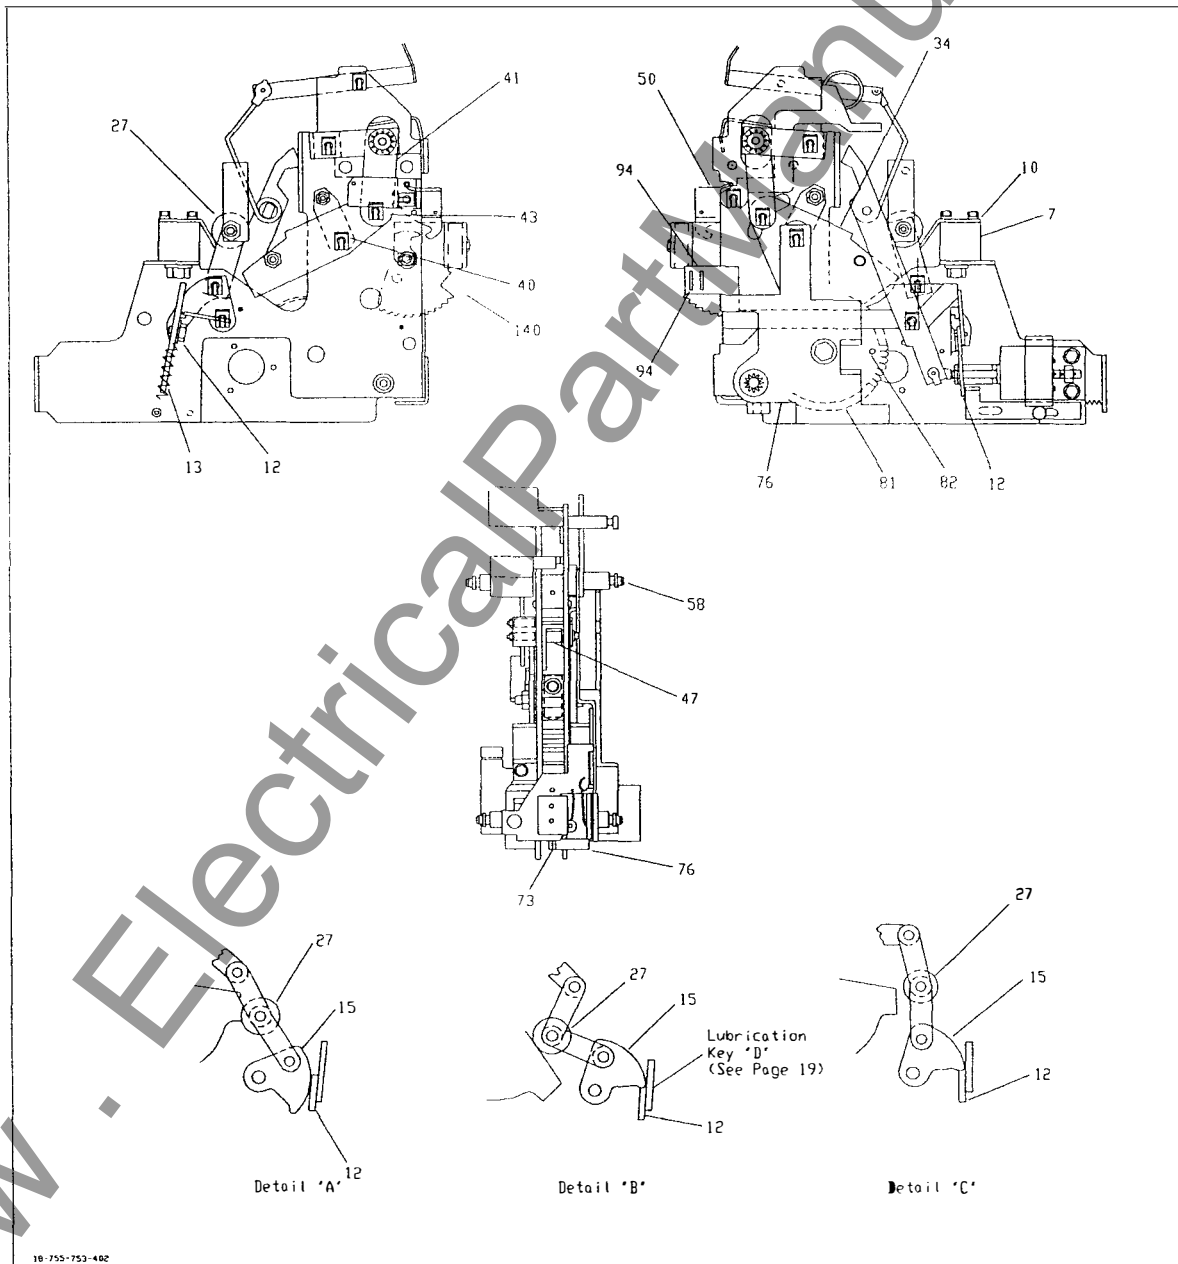

FIGURE 2. Circuit Breaker Operator.
The breaker has a center-mounted frame, so many of the latches and links are arranged in pairs. For descriptive purposes, they will be referred to as single items. Refer to Figure 2 and Table 1. Detail "A" shows the position of the trip latch and toggle linkage when the circuit breaker is open and the closing springs are discharged.
The mechanism of the electrically operated circuit breaker is the same as the manually operated circuit breaker, except that the manual-charging handle is replaced by a motor and gear system. Refer to **Figure 2** and **Table 2**. Power available to the control circuit will start the automatic charging cycle. The motor gear-box pinion rotates gear (81) counterclockwise. Cam follower (82) engages an arm of wind and close cam (34), which rotates the cams in the same manner as for the manually charged circuit breaker. When the wind and close cam (34) reaches its charged position, the back of the cam engages switch lever (73), rotating the lever away from the switch operator. Gear switch lever (76) will still be holding the switch in the operate position and the motor will continue to run until the roll pins on the side of gear (81) lift lever (76) clear. This releases the motor cutoff switch (MCO). When the MCO switch opens, the motor stops, and the closing coil circuit is set up through one side of the MCO switch.